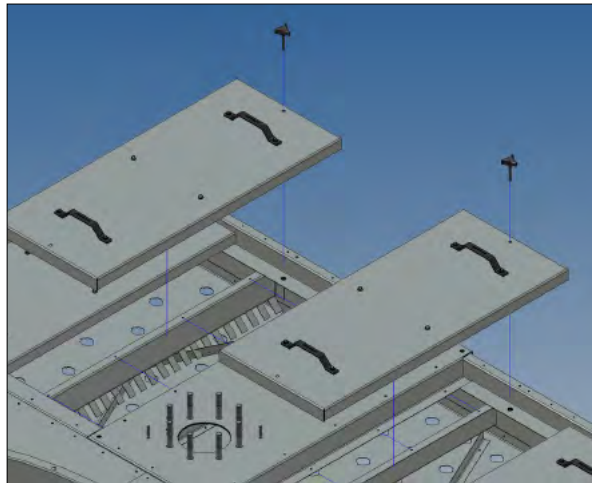

Figure 7. Hot Water Basin Cover Removal
- **Hot Water Basins:** The hot water basins provide increased reliability and lifespan combined with easy accessibility and serviceability of the spray water system. Located on the fan deck, the system water enters the cooling tower through the hot water basins (refer to **Figure 7, page 22**). A series of nozzles, which distribute water over the splash fill, are located in the hot water basin. There are four materials of construction for the hot water basin: Galvanized steel, Thermosetting Hybrid Polymer, Type 304 stainless steel and Pultruded Fiberglass Reinforced Polyester (PFRP).
- To remove the covers turn the knobs to remove the threaded studs (**Figure 7**). Then, lift the hot water basin covers vertically by using the attached handles. Once the hot water basin covers are removed, the nozzles may be cleaned.